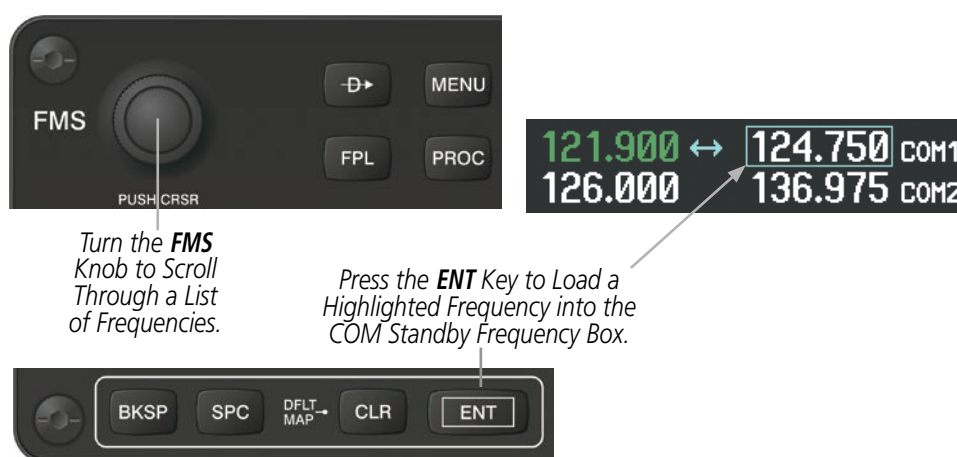
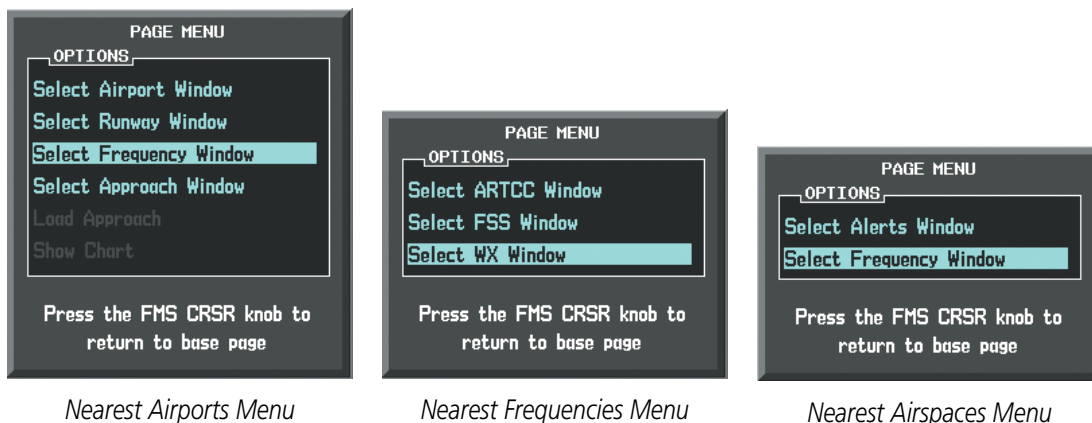

Figure 4-9 Frequency Auto-Tuning from the MFD
Figure 4-10 Nearest Pages Menus
Frequencies can be automatically loaded into the COM Frequency Box from pages in the NRST or WPT page group by highlighting the frequency and pressing the **ENT** Key (Figures 4-9, 4-10, and 4-11).
- 1) On the Nearest Airports, Frequencies, or Airspaces Page, press the **MENU** Key (Figure 4-9) to display the page menu (Figure 4-10).